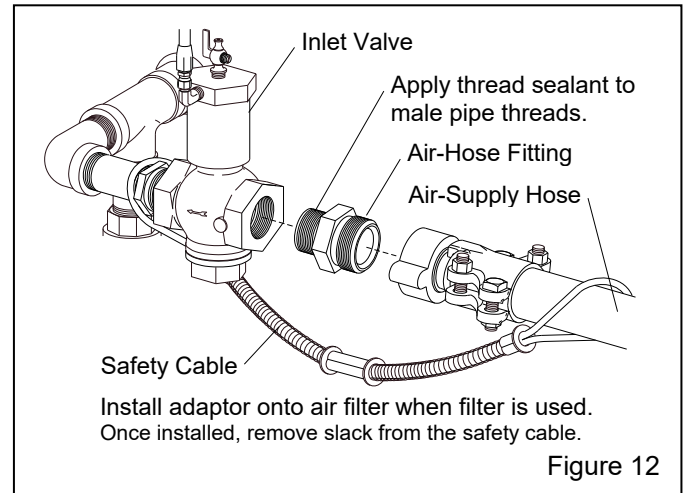

Figure 12
2.5.1 Apply thread sealant to the male pipe threads of an air fitting that is compatible with the air-supply hose, as noted in Section 2.5.2, and install it onto the inlet valve, as shown in Figure 12. The style of connection shown is for reference only.